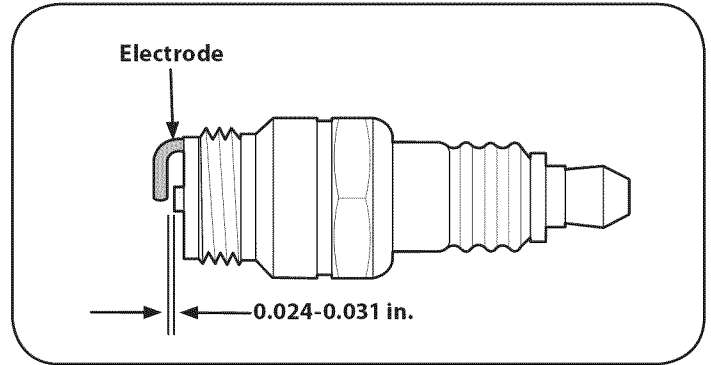

Figure 19
- Measure the plug gap with a feeler gauge. Correct as necessary by bending side electrode. See Figure 19. The gap should be set to 0.024-0.031 in.